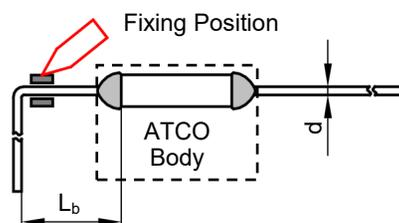

FIGURE SF-2
2. When bending leads, please use pincher or similar tools to fix the product as shown in Fig.SF-2, to avoid damaging the product.